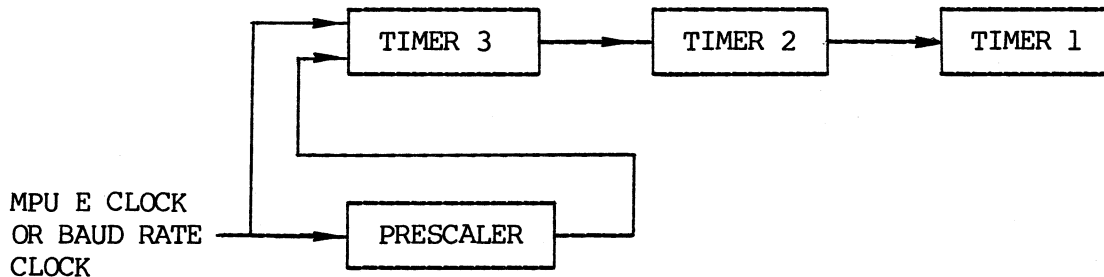

FIGURE 4-4. PTM Interval Timers
4.3.4.1 MC6840 Programmable Timer Module. The MC6840 PTM contains three 16-bit counters. The counters are externally connected for cascading. The output of timer 3 is connected to the input of timer 2 and the output of timer 2 is connected to the input of timer 1. The timer 1 output is not connected. The timer 3 clock input may be the MPU E clock or the baud rate clock from the serial debug port. The PTM gate inputs for the three timers are permanently tied low (enabled). A simplified diagram of the timers is shown in Figure 4-4.